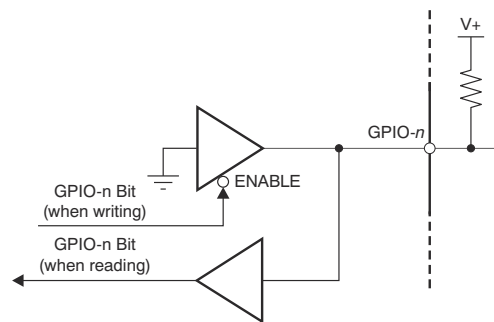

Figure 7-17. GPIO Pins
The device has eight GPIO pins. The GPIO-0, GPIO-1, GPIO-2 and GPIO-3 pins are dedicated to general, bidirectional, digital I/O signals. GPIO-4, GPIO-5, GPIO-6, and GPIO-7 are dual-function pins and can be programmed as either bidirectional digital I/O pins or remote temperature sensors D1 and D2. When D1 or D2 is disabled, the pins function as GPIOs. These pins can receive an input or produce an output. When the GPIO-*n* pin functions as an output, the pin has an open-drain and the status is determined by the corresponding GPIO-*n* bit of the GPIO register. The output state is high impedance when the GPIO-*n* bit is set to 1, and is logic low when the GPIO-*n* bit is cleared (0). A 10-k Ω pullup resistor is required when using the GPIO-*n* pin as an output; see Figure 7-17. Do not tie the dual-function pins GPIO-4, GPIO-5, GPIO-6, and GPIO-7 to a pullup voltage that exceeds the AV_{DD} supply. The dedicated GPIO-0, GPIO-1, GPIO-2, and GPIO-3 pins are only restricted by the absolute maximum voltage. To use the GPIO-*n* pin as an input, the corresponding GPIO-*n* bits in the GPIO register must be set to 1. When the GPIO-*n* pin functions as an input, the digital value on the pin is acquired by reading the corresponding GPIO-*n* bit. After a power-on reset or any forced hardware or software reset, all GPIO-*n* bits are set to 1, and the GPIO-*n* pin goes to a high-impedance state.